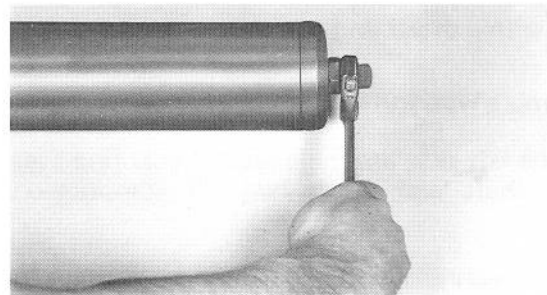

Figure 43
4. Slide one (1) sleeve onto roller shaft against double jam nuts.
6. Pour approximately one (1) pint (16 ounces) of SAE 90 or 140 gear oil into the roller housing.
9. Install elastic stop nut and secure by holding double jam nuts. Tighten elastic stop nut (Fig. 43).